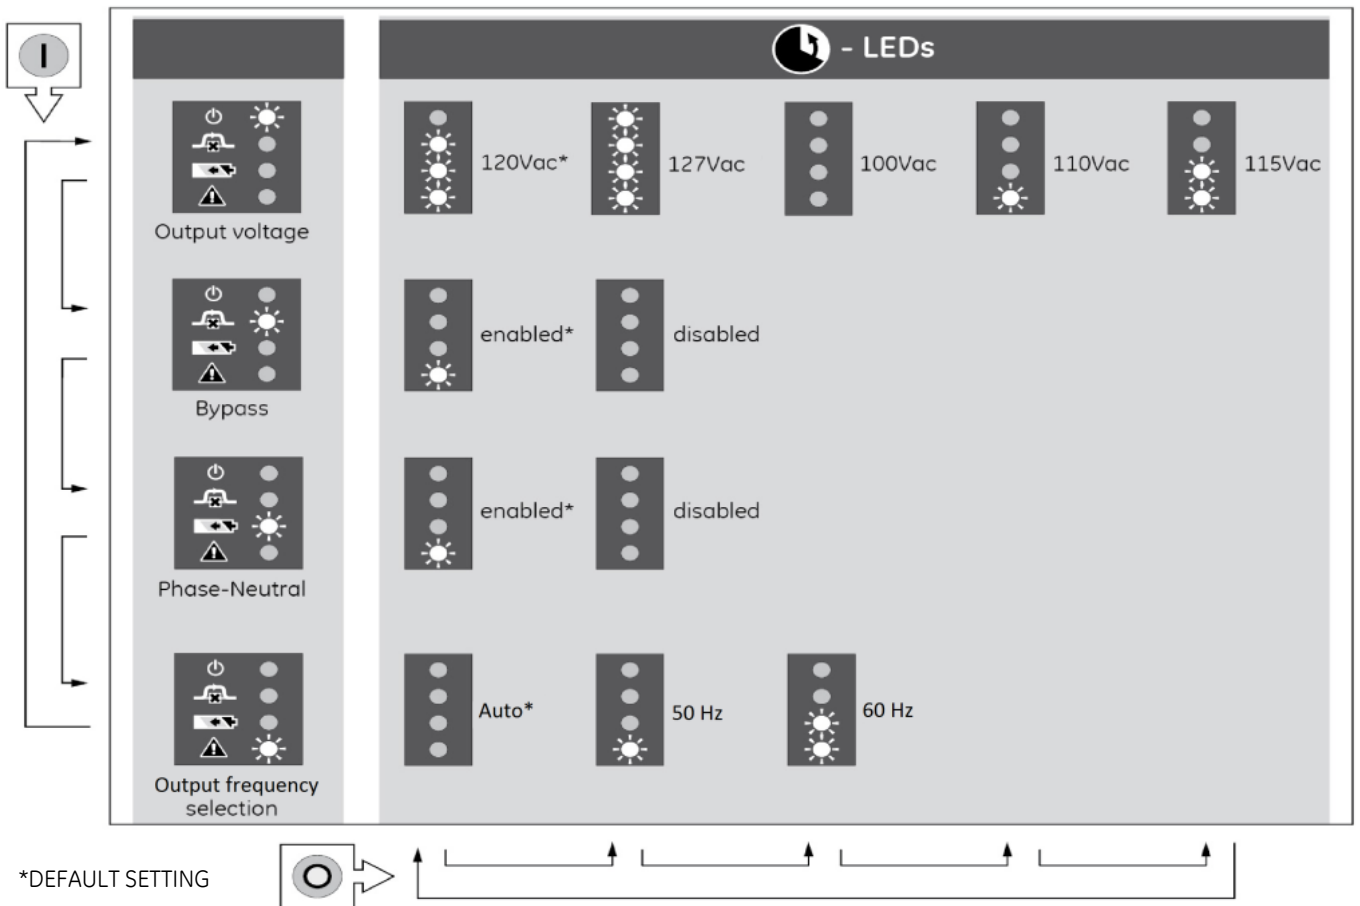

fig. 4.5: Setup menu
- 2 Scroll through the four functions with keypad 'I', one of the LEDs 'operation', 'on bypass', 'on battery' or 'alarm' will blink, indicating which function has been selected (see fig 4.5).